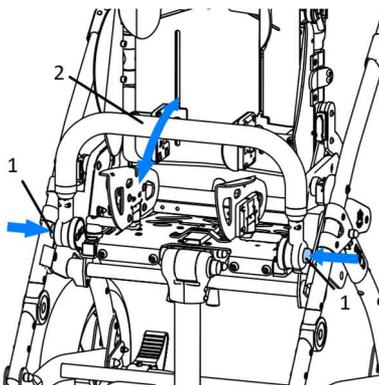

Fig. 21
To adjust the position of the safety bar (2), press the buttons (1) of the angle regulator on both sides of the pushchair seat Fig. 21. Then set the desired position of the safety bar. To lock the safety